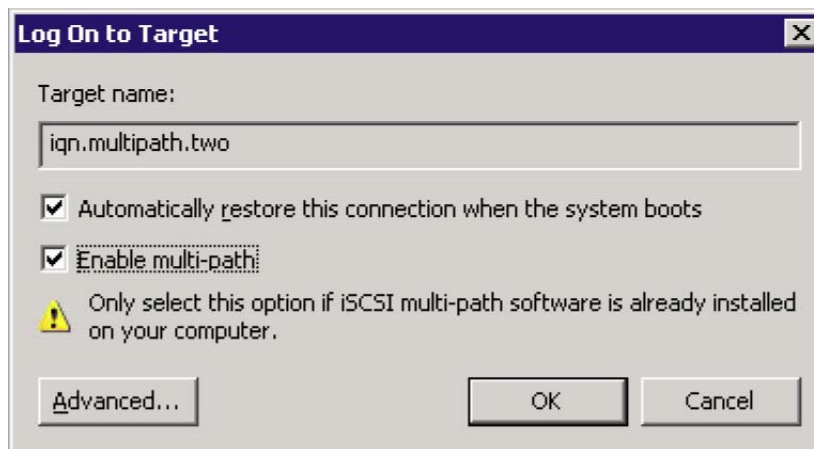

Figure 35 Log On to Target window
The Log On to Target window opens (Figure 35).
3. Select the **Automatically restore this connection when the system boots** and the **Enable multi-path** check boxes to ensure that the controller port is enabled as a persistent target and is able to utilize multi-pathing (Figure 35).